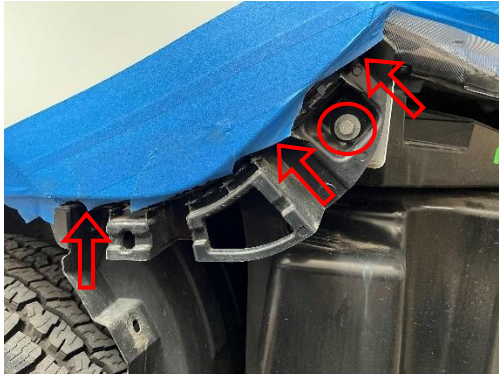

Figure 17: Outer Fender Plastic Support Removal
16. Uninstall outer fender supports by removing the three torx bolts (T30) and the side securing bolt (size 13mm). Reference Figure 17.